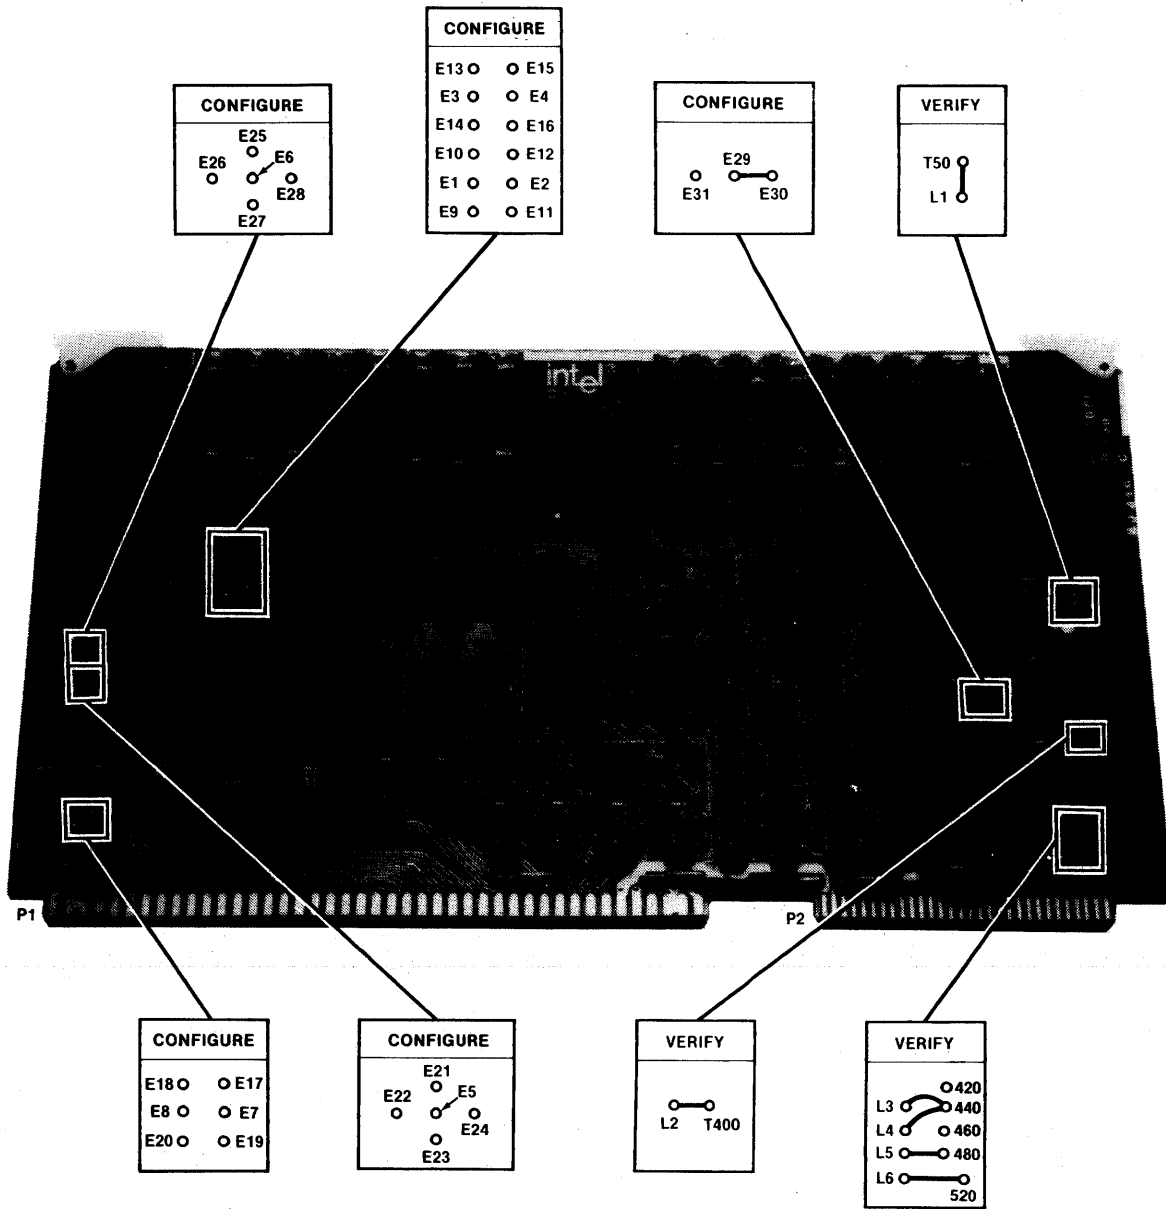

Figure 5-15. iSBC 032™ 32k RAM Board Configuration Jumpers
- a. Referring to figure 5-15 and table 5-1, configure the following six plug-on jumpers: